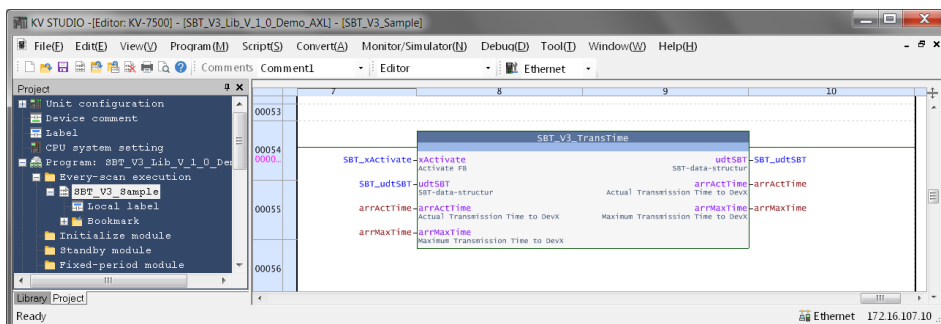

Figure 4-26 SBT_V3_TransTime function blocks
- Connect the function blocks as shown in Figure 4-26.